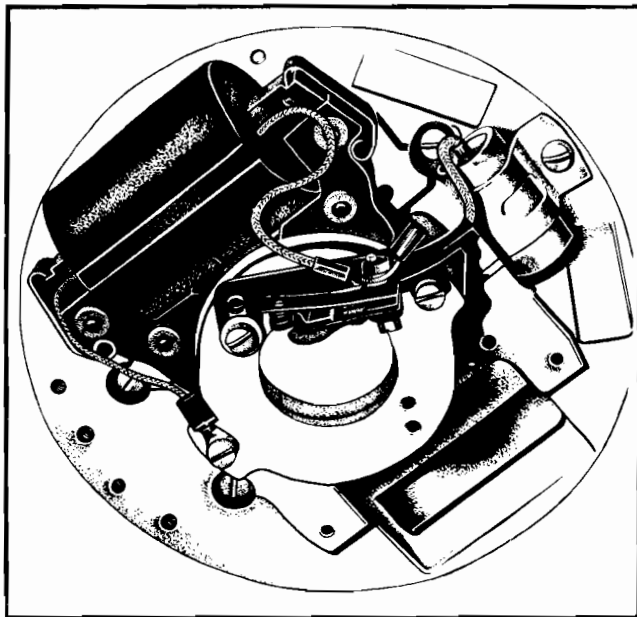

Figure No. 22—General View Scintilla Magneto
1. In this magneto the stator, or magnet is mounted on the crankshaft instead of on the flywheel. Both magnetos have the coil, core, breaker points and condenser mounted on a stator plate. Some stator plates for Scintilla-equipped engines have an additional recess for attaching a lighting coil, if desired. (See Figures No. 22 and 23.)